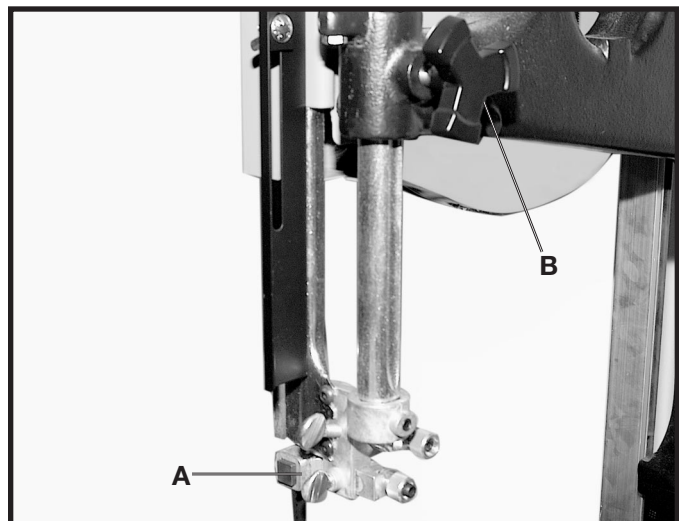

Fig. 53
Set the upper blade guide and guard assembly (A) Fig. 53 as close as possible to the top surface of the workpiece. Loosen the lock knob (B) and move the guide assembly (A) to the desired position.